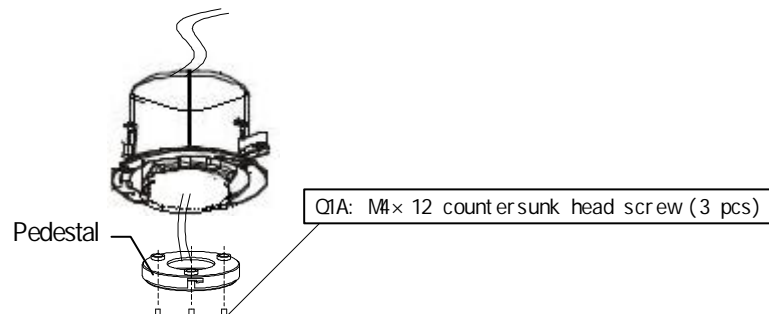

Figure 22
- d) Fit the “installation pedestal” with the embedded mount (Figure 22)